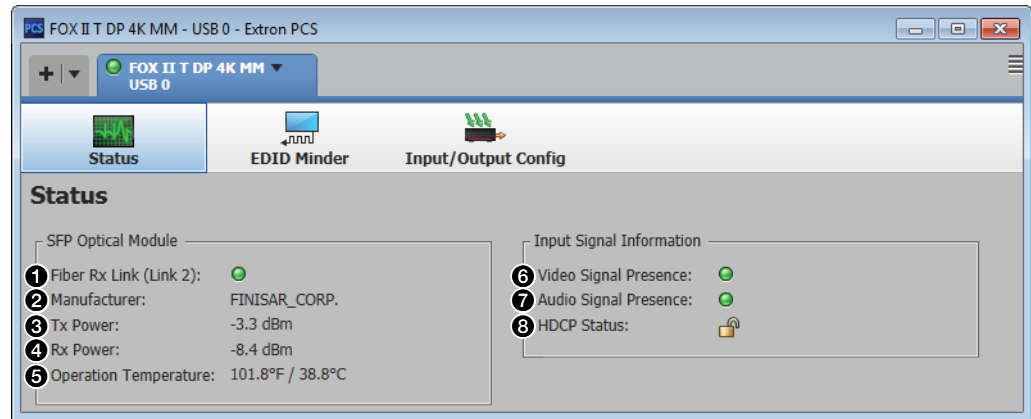
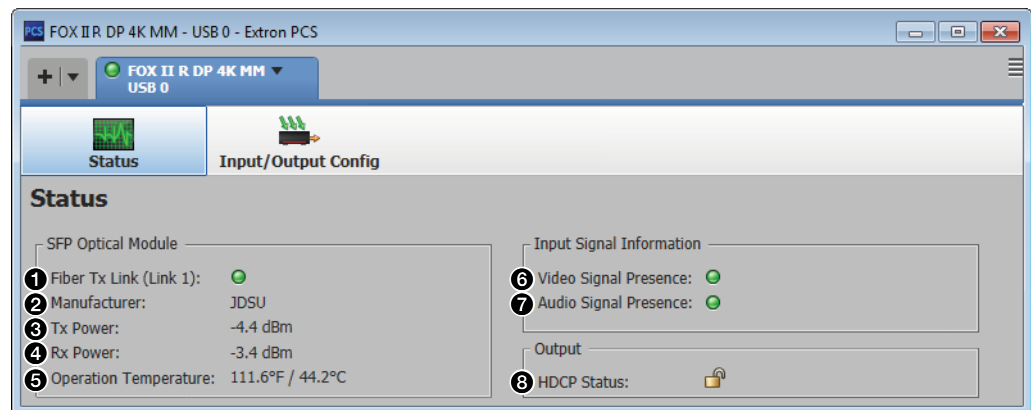

Figure 14. Status Window for the Transmitter
Figure 15. Status Window for the Receiver
2. Select (click) your FOX II T/R DP 4K and the USB port (1).
3. Click **Connect** (2). The Product Configuration Software opens to the **Status** window (see figure 14 for the transmitter and figure 15 for the receiver, both on the next page).
Once you have connected to a device, the **Status** window (see figure 14 for the transmitter and figure 15 for the receiver) is the default start-up window for the Product Configuration Software. The window provides indications of the connection status.
⑥ Video Signal Presence indicators (see figure 14 and figure 15 on the previous page)